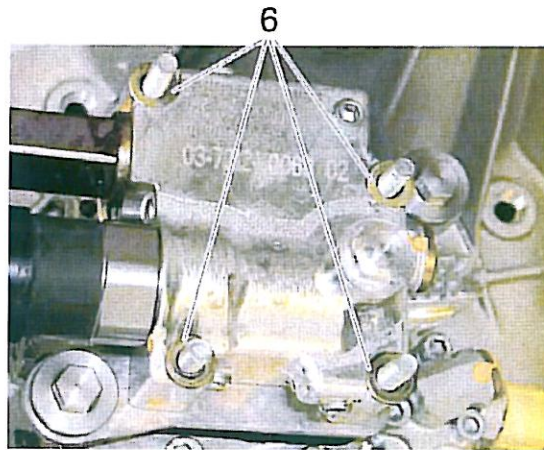

Figure 20
15. Fit one washer (item 6) onto each of the stud bolts. See Figure 20.